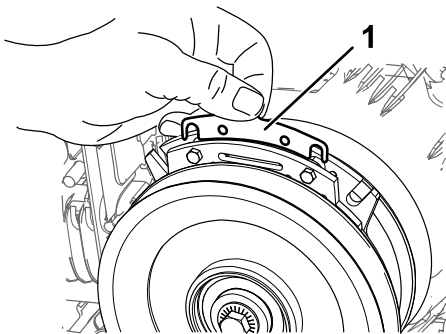

**Figure 64**
- A. Loosen both brake mounting bolts 1/2 to 1 full turn as shown in Figure 64.